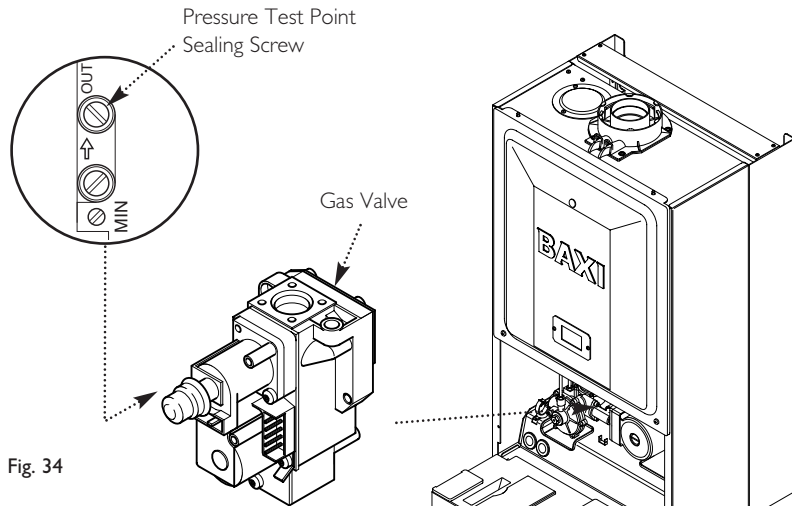

Fig. 34
3. Slacken the pressure test point sealing screw on the gas valve and connect a pressure gauge (Fig. 34).